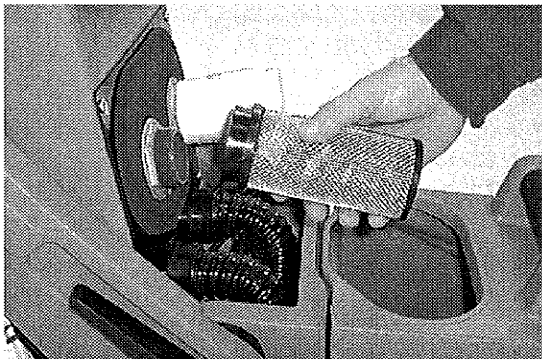

FIG. 14
2. Remove float shut-off screen from recovery tank cover and clean (Figure 14).